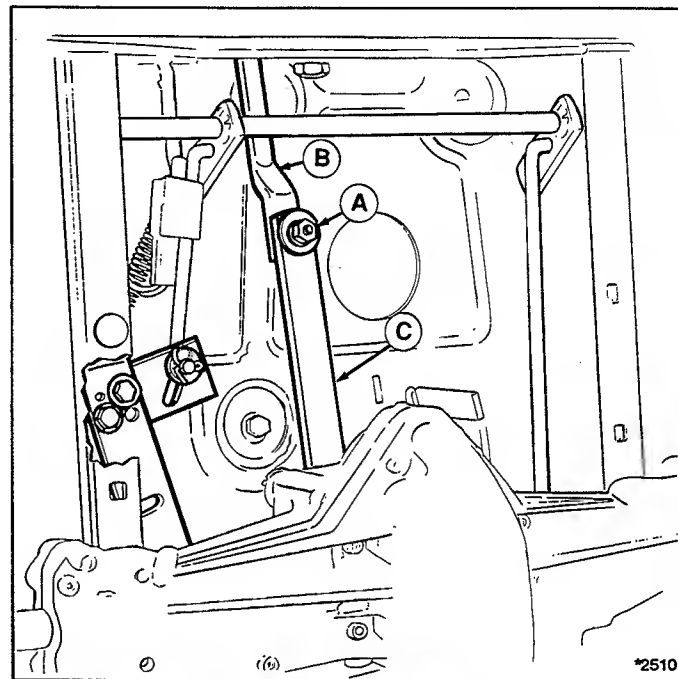

Figure 28. Neutral Adjustment (Gear Models)
3. Loosen the nut (A, figure 28) that secures the front control rod (B) to the rear control bar (C). Control rod must be free to move.
5. Tighten nut (A, figure 28) securely to 17 ft. lbs.